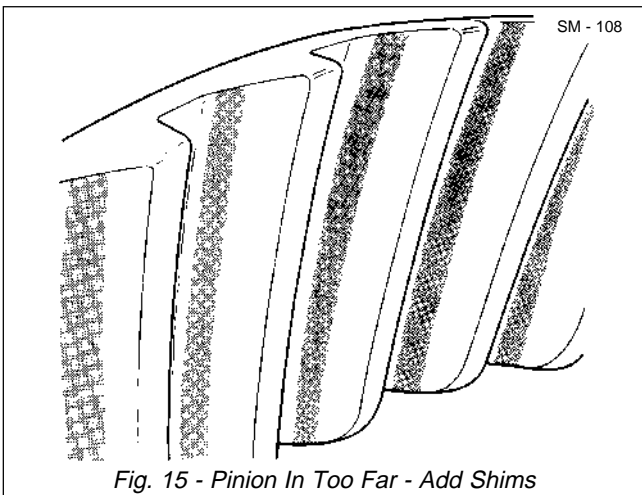

Fig. 15 - Pinion In Too Far - Add Shims
d. If the contact area is along the root of the ring gear teeth, see Fig. 15, move the pinion out by adding shims.